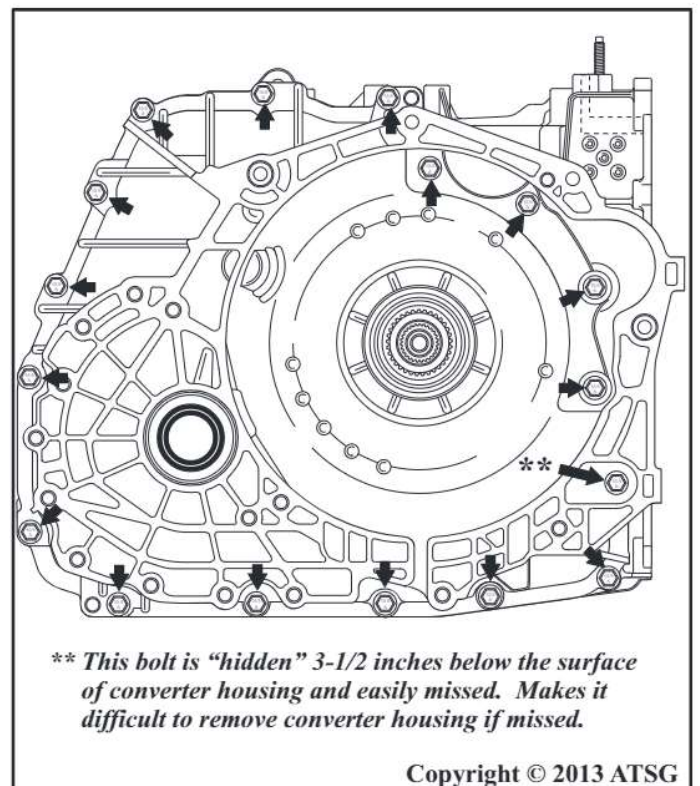

Figure 68
51. Rotate transmission so that converter housing is facing up, as shown in Figure 68.
52. Remove the seventeen (17) converter housing to case retaining bolts and their locations are shown in Figure 68.
Note: There is one retaining bolt that is easily overlooked because it is 3-1/2 inches below the machined surface of the converter housing. Refer to Figure 68 and 69.